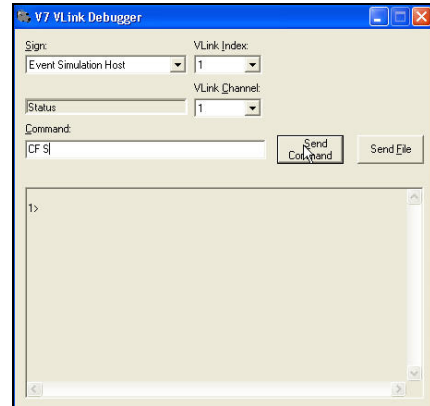

Figure 26: Send Command
- After running the initialize script or command frame, or loading all the necessary .VLC files, save the configuration on the VIP by entering “CF S” in the *V7 VLink Debugger Command* box. Create backup configuration if not done previously. Refer to **Figure 26**.